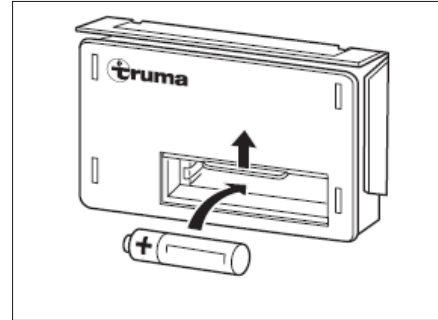

Fig. 105 Changing the batteries
- Slide the cover of the battery compartment at the automatic ignition (Fig. 105) upwards.
- Insert a new battery of the same type into the battery compartment of the automatic ignition, observing the correct polarity (+/-) (Fig. 105). Use only temperature-resistant (+70 °C) and leak-proof Mignon batteries.